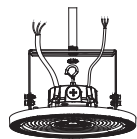

Figure 9
Step 2. Insert 1/2" NPT stem into the bracket hole. (Figure 9)